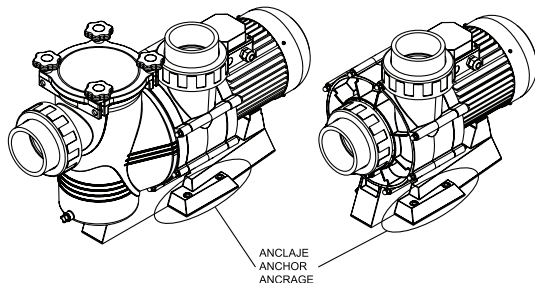

Fig. 1
- All pumps come with a two-drill foot to allow it to be fixed to the floor by means of an anchor. (Fig. 1).